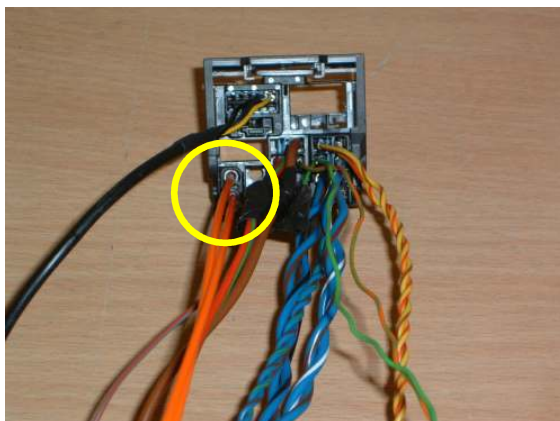

Fig 10: Quadlock X13812 showing the new orange optical harness in the original socket
- Plug 1 connect to X1382 where the original fibre optical connector was connected – see Fig 10